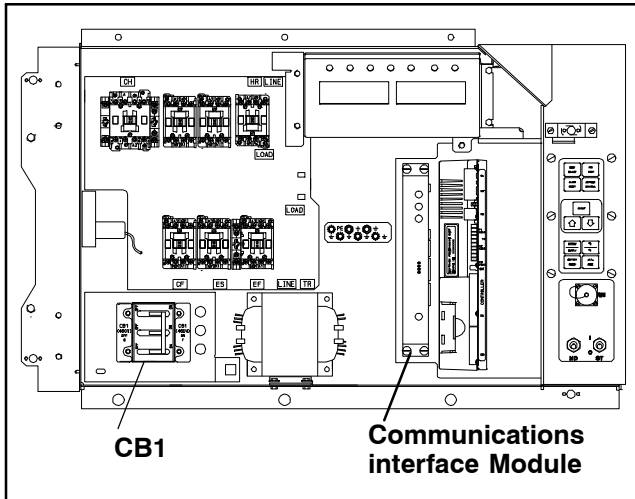

Figure 6-32 Communications Interface Installation
- Open control box, see Figure 6-32 and remove low voltage shield. Open high voltage shield.